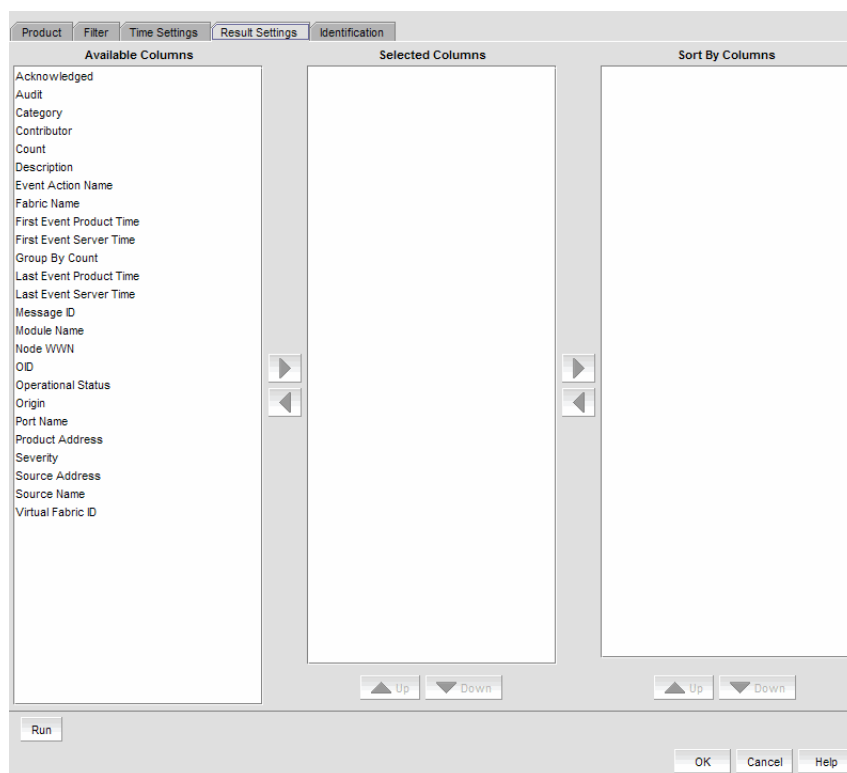

FIGURE 473 Add/Edit Report Definition dialog box - Result Settings tab
3. The **Add/Edit Report Definition** dialog box - **Product** tab, shown in Figure 473, displays.